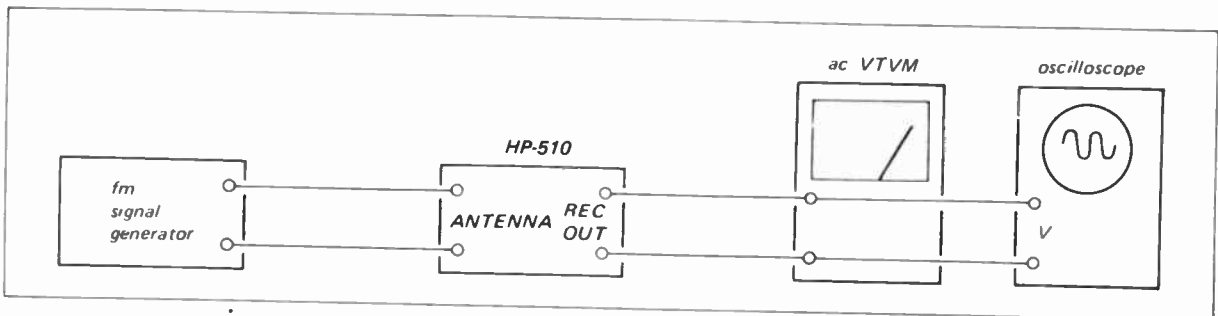

Fig. 3-10. Fm frequency coverage and tracking alignment test setup
2. Connect the equipment as shown in Fig. 3-10.
1. With the equipment connected as shown in Fig. 3-10, follow the procedures given Table 3-3.